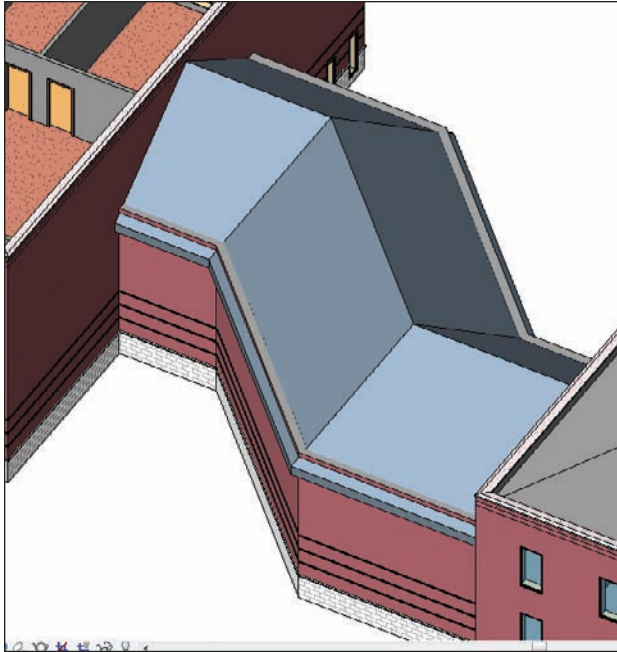

FIGURE 7.30 The corridor roof in 3D
13. Go to a 3D view. Does your roof look like Figure 7.30?